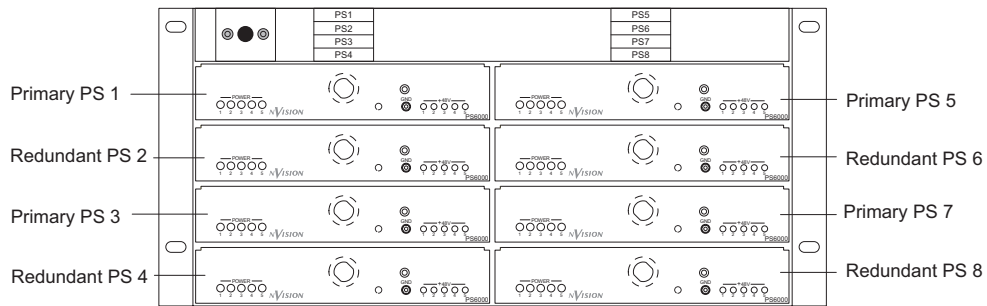

Figure 2-4. NV6257 Power Supply (Front View)
- a Facing the front of the **NV6257**, install the primary PS6000 power supply modules in slots *PS 1* and *PS 3*, as shown in Figure 2-4 on page 38.
- b (Optional) Facing the front of the **NV6257**, install the redundant PS6000 power supply modules in slots *PS 2* and *PS 4*, as shown in Figure 2-4.
When two routers are connected to one NV6257 power supply, different PS6000 power supply module slots (see Figure 2-4) provide power to one or the other of the two routers (Router 1 and Router 2), as follows:
- a Facing the front of the **NV6257**, install the primary PS6000 power supply modules in slots *PS 1*, *PS 3*, *PS 5* and *PS 7*, as shown in Figure 2-4 on page 38.